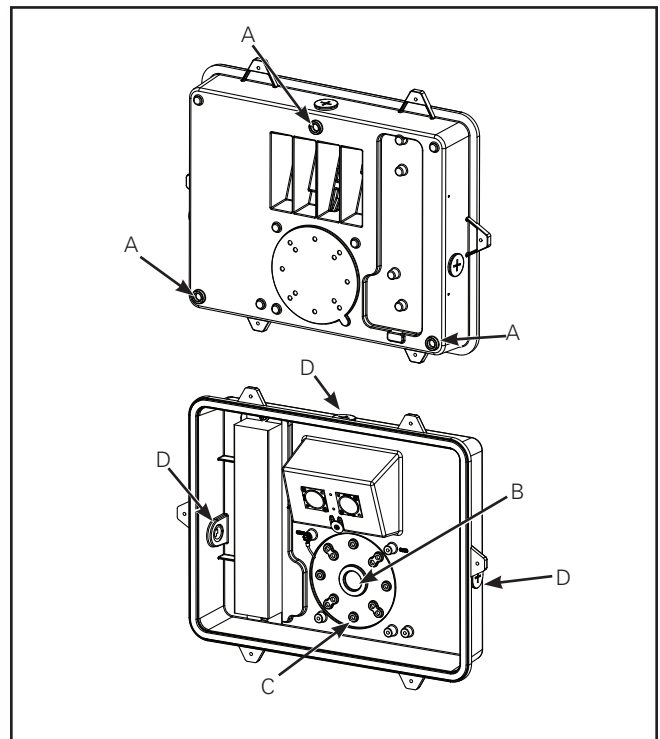

Figure 2.
2. Remove inner cover and set aside. Prepare the back plate for mounting by drilling or knocking out the appropriate holes. (Figure 2.)